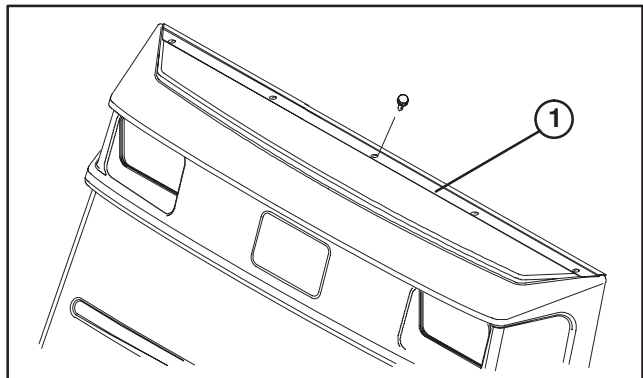

Figure 12
23. Remove (5) screws securing trim bracket to top of hood (Fig. 12).